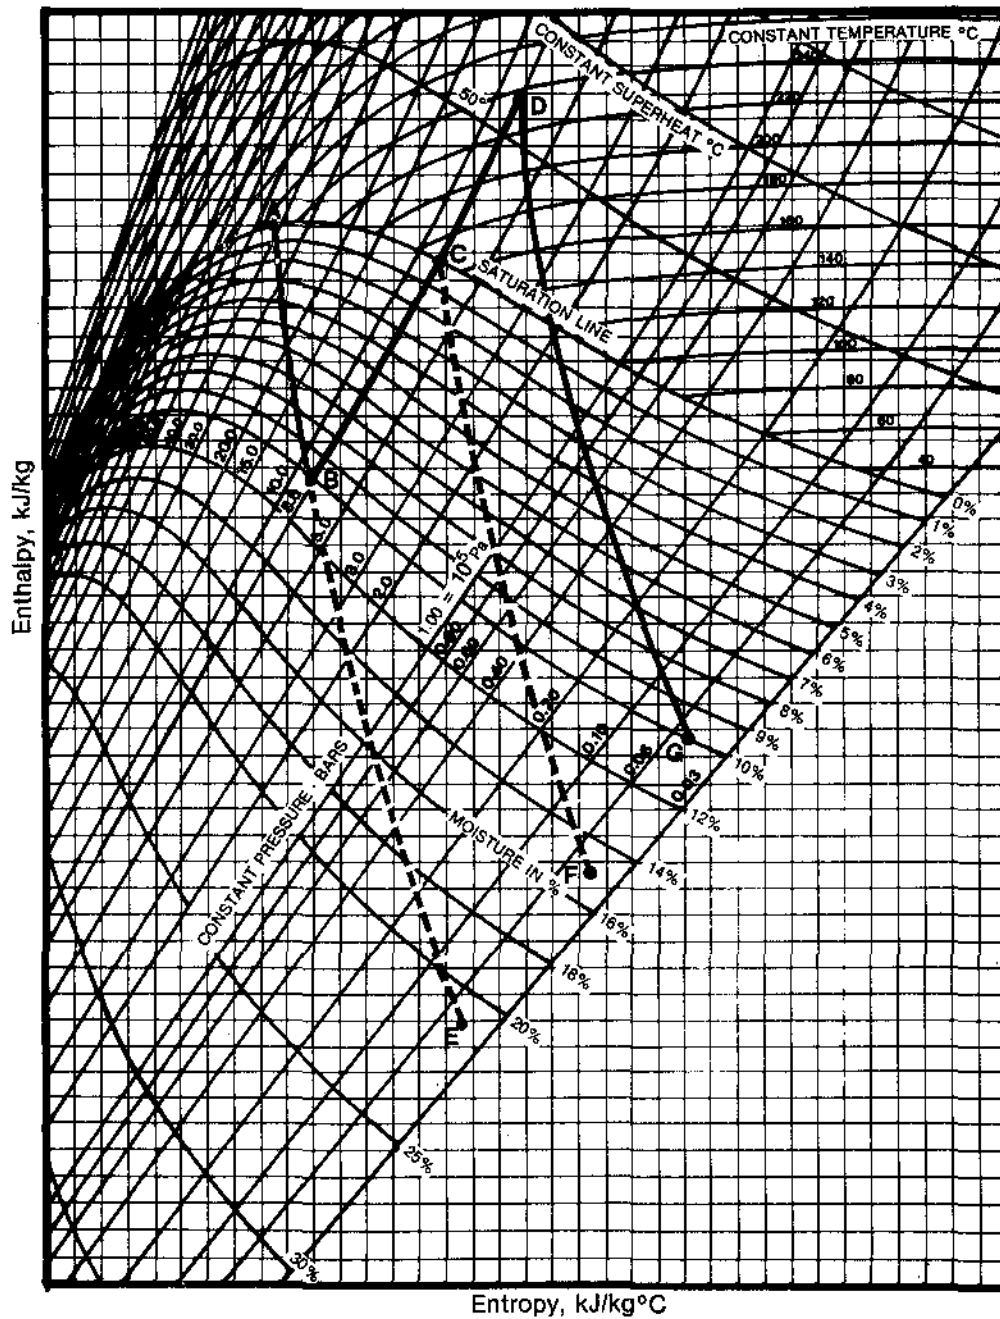

Figure 6.18
6.5 Your answer should look like Figure 6.18: